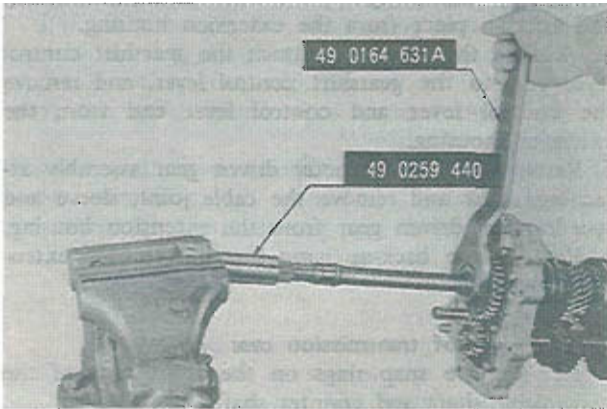

Fig. 7-9 Loosening of lock nut
1. Straighten the tab of the lockwasher, hold the main shaft with the **holder** (Part No. 49 0259 440) as shown in Fig. 7-9 and loosen the lock nut by using the **main shaft lock nut wrench** (Part No. 49 0164 631A). Slide the reverse gear off the main shaft.